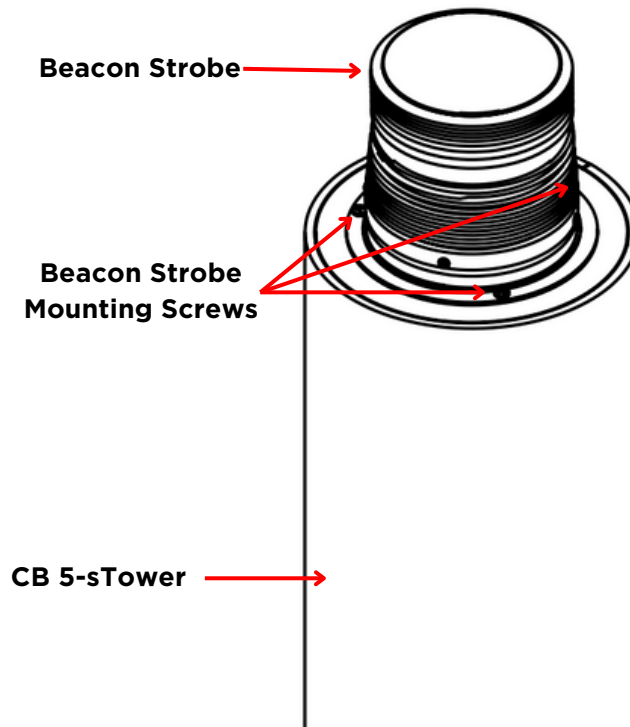

Figure 6
- **Existing Beacon Strobe Removal**(See Figure 6 below for referenced components)